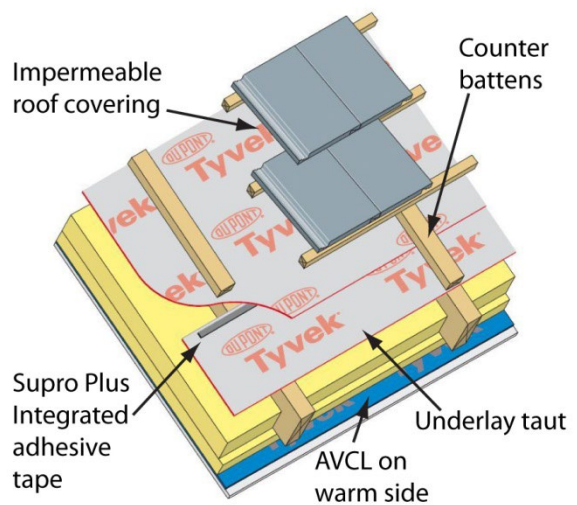

Figure 6
6. Warm roof - Non-ventilated & sealed (Vapour impermeable covering) taut with counter batten (Figure 6)